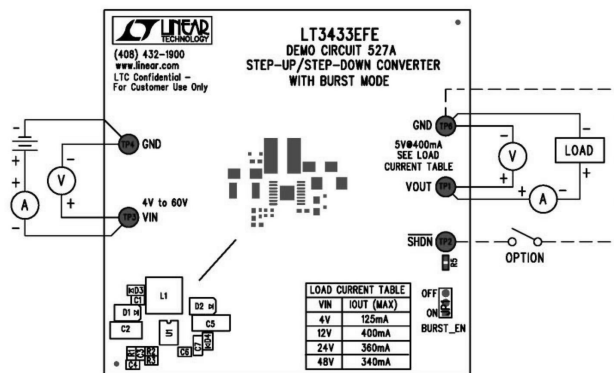

Figure 1. Proper Measurement Equipment Setup
Demonstration circuit 527 is easy to set up to evaluate the performance of the LT3433. Refer to Figure 1 for proper measurement equipment setup and follow the procedure below:
1. Connect the power supply (with power off), load, and meters as shown in Figure 1.